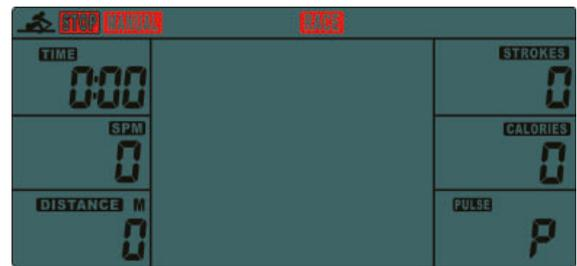

fig. 3
2. First you set the year (STROKES); the month (CALORIES); the day (PULSE) in the time window. After the confirmation, ALARM flashes. Press UP to set ON/OFF, the alarm signal. When the signal is not displayed, press ENTER to get to the next. When the alarm signal shows ON, press ENTER to set the alarm times (like time setting). After the setting, you switch to the sport figures (fig. 3).